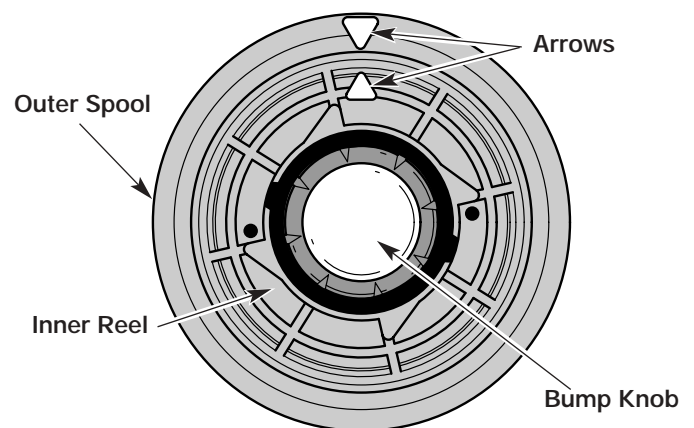

Fig. 40
2. Hold the outer spool and turn the inner reel counterclockwise to line up the arrows on the outer spool and inner reel (Fig. 40).